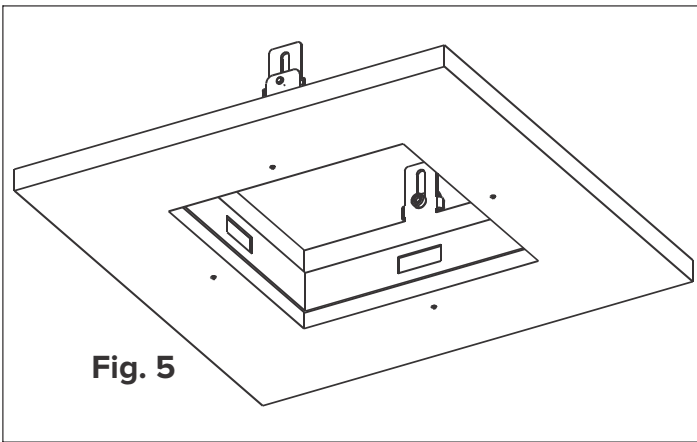

Fig. 5
Step 5: Adjust the adapter until the Dust Cover is flush with the ceiling. Tighten the screws when complete using 1/8" Allen Key **Fig. 5.**